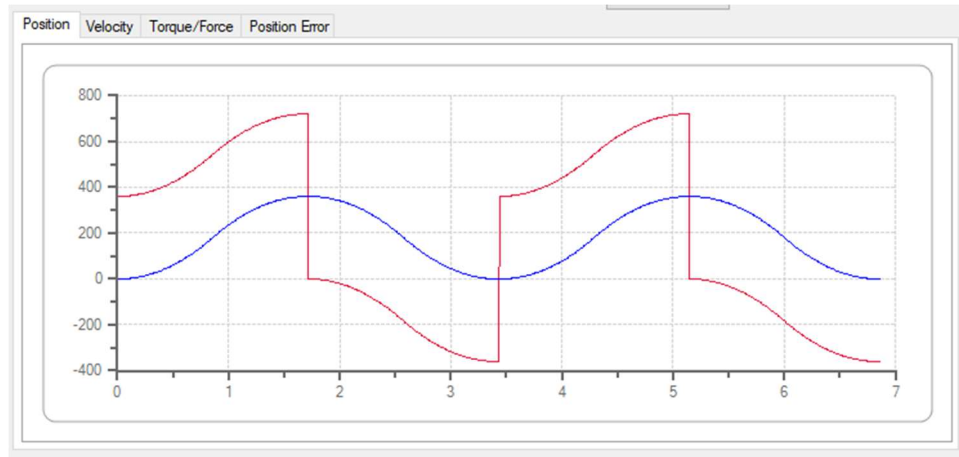
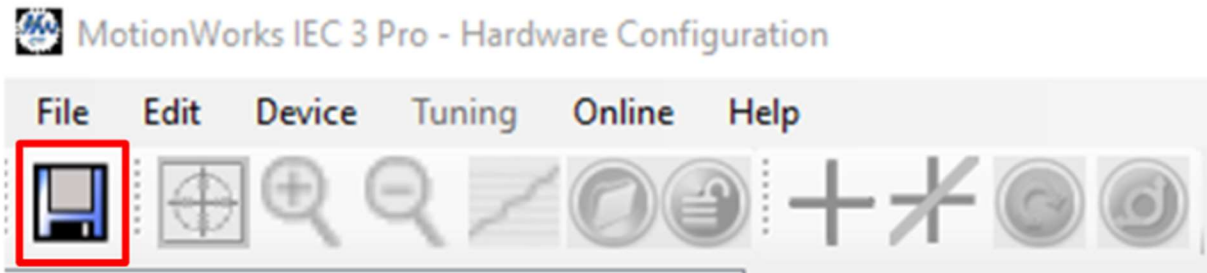

Figure 8: Resulting Position Graph from Test Move
Figure 9: Save Hardware Configuration Button
- After the test finishes and the motor stops moving, a graph similar to Figure 8 should appear. If so save the Hardware Configuration through the button in Figure 9.